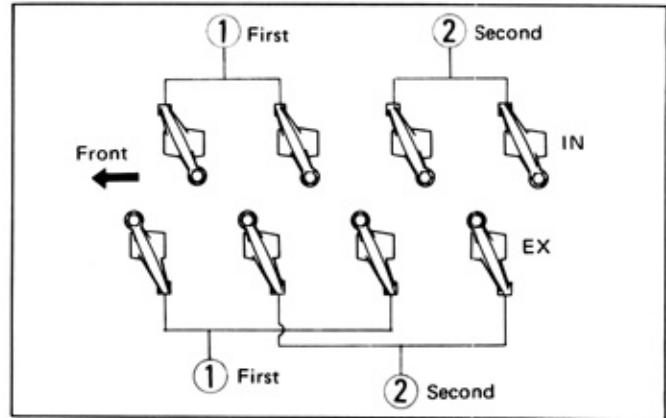

Fig. 18-71 Valve Clearance Adjustment Order (2T-C)
- (1) Run the engine until thoroughly warmed up. (Coolant temperature about 180°F).
- (2) Remove the cylinder head cover.
- (3) For the 2F engine, check the valve clearances with thickness gauge while idling, and adjust if found necessary to do so.
- (4) For the 2T-C and 20R engines, turn the crankshaft with a wrench and set the No.1 piston at compression top dead center.
- Check and adjust the valve clearances ① shown in Fig. 18-71 or 18-72.
- Next, turn the crankshaft one full rotation, and check and adjust the valve clearances ② shown in Fig. 18-71 or 18-72.